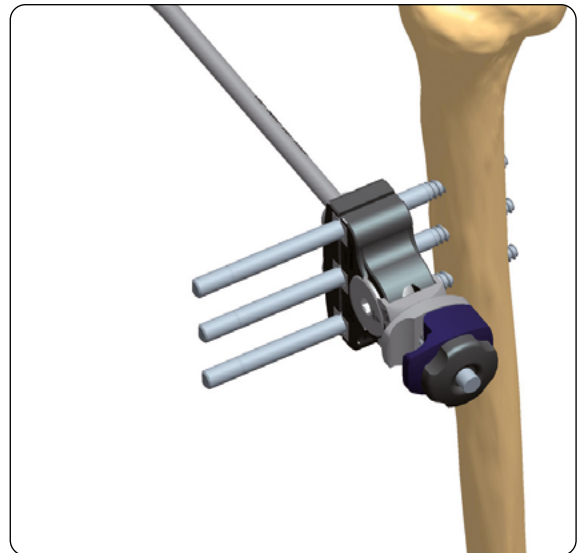

Fig. 5
5) Remove the 3 screw guides and lock the screws in the clamp (**Fig. 5**).